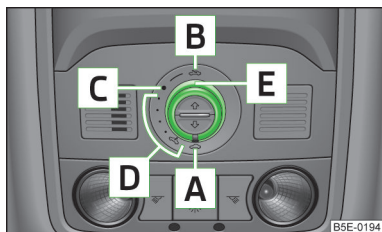
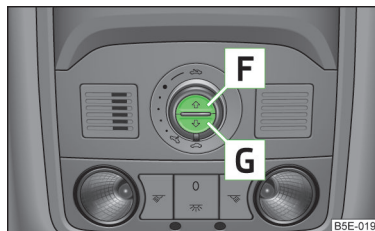

Fig. 26
Fig. 27
- If, for example, the battery has been disconnected and reconnected, it is possible that the sliding/tilting roof does not operate correctly. Next, move the rotary switch into position  » Fig. 26 on page 52 , pull the recess firmly downwards and hold forwards firmly. The sliding/tilting roof opens and closes again after around 10 seconds. Do not release the control dial until it has done so.
- If, for example, the battery has been disconnected and reconnected, it is possible that the sun screen does not operate correctly. Then turn the switch to position  » Fig. 26 on page 52 and press and hold the button  » Fig. 27 on page 52. The sun screen opens and closes again after around 10 seconds. Do not release the control dial until it has done so.
- Turn the switch to position **C** » Fig. 26.
The sun screen can be closed or opened using the buttons » Fig. 27.
- Briefly press the button **F** » Fig. 27 to open fully.
- Briefly press the button **G** » Fig. 27 to close fully.